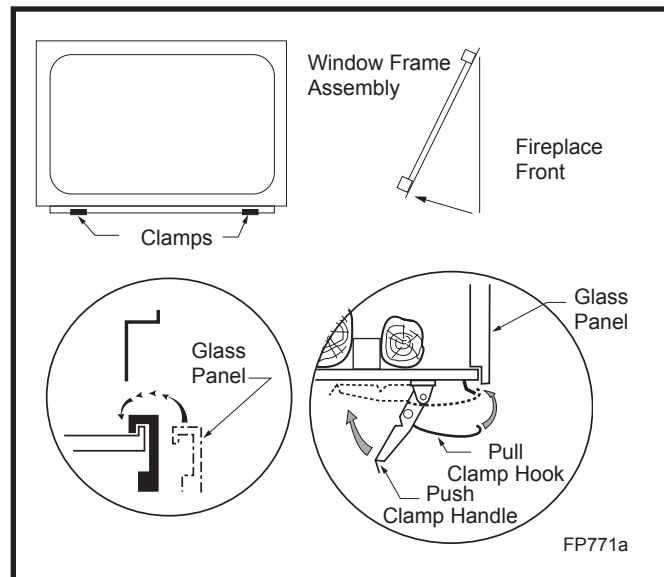

Fig. 48 Window frame assembly removal.
5. Release the two clamps along lower edge of the frame by pulling down on clamp handles. (Fig. 48)